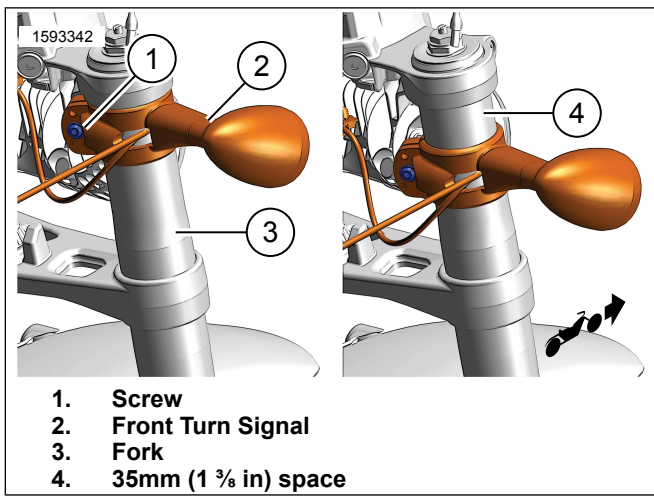

Figure 4. Relocate Turn Signal Brackets
1. See Figure 4. Loosen screw (1) on front turn signal (2).
2. Move front turn signal (2) approximately 35mm (1  $\frac{3}{8}$  in) (4) down fork tube (3).
3. Tighten screw (1).